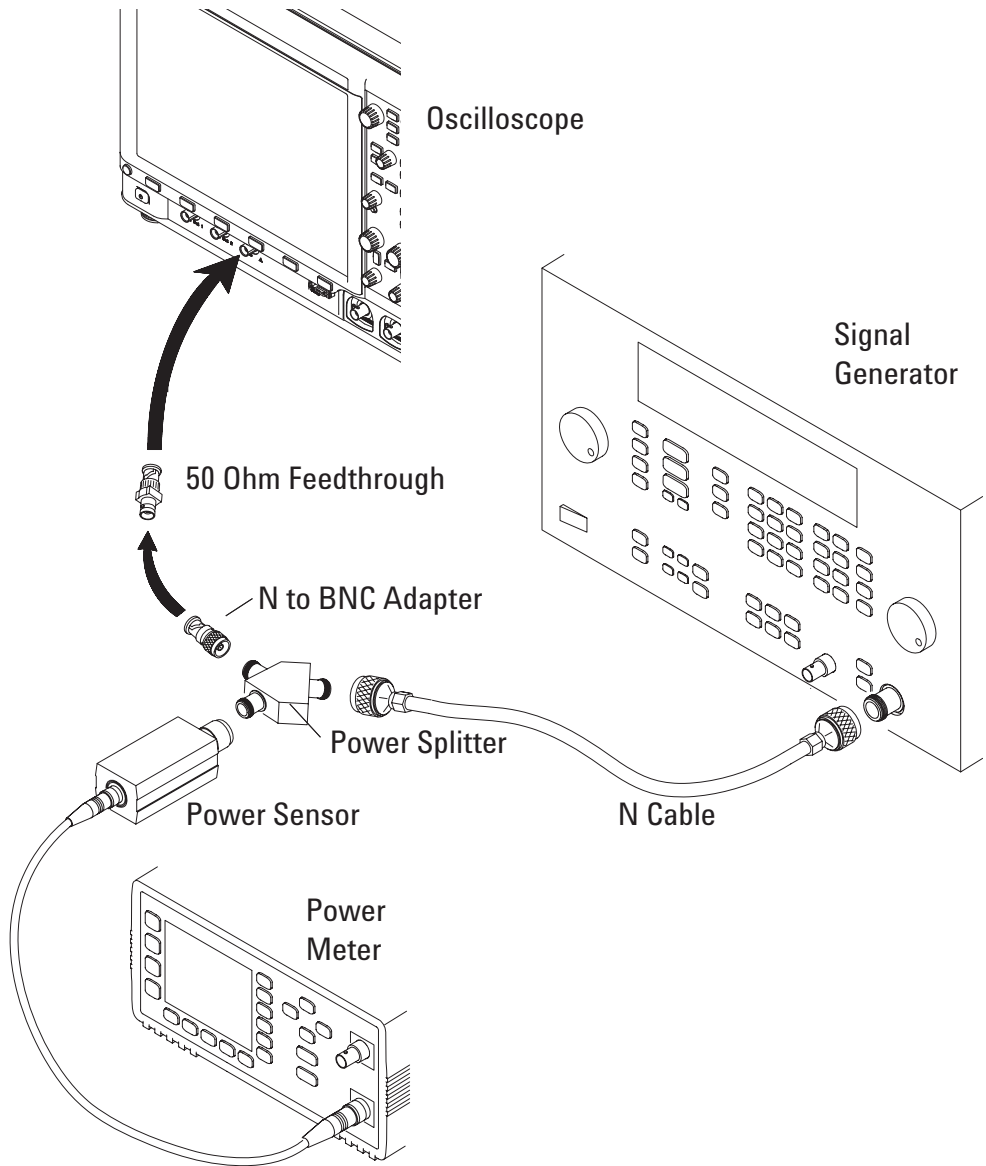

Figure 9 Setting Up Equipment for 4-Channel External Trigger Sensitivity Test
- 1 Connect the equipment (see **Figure 9**).